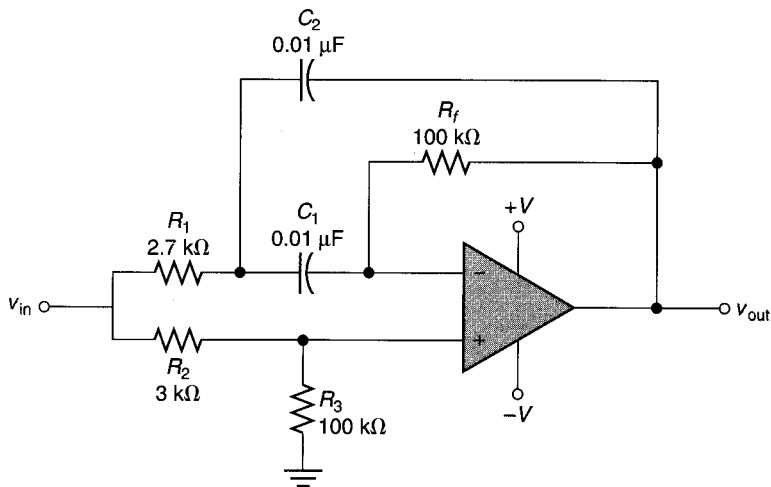

FIGURE 17.56
- 25.** Calculate the values of  $f_{C1}$ ,  $f_{C2}$ , bandwidth, geometric center frequency, and  $Q$  for the notch filter in Figure 17.56.